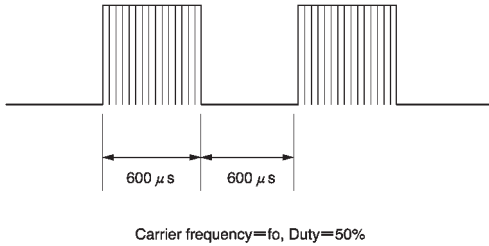
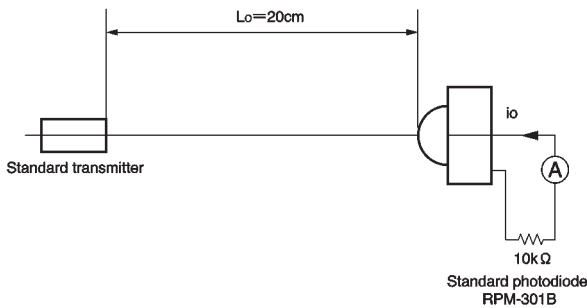
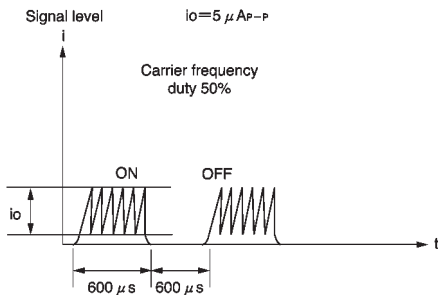

Fig.1 Transmit signal
Fig.2 Measurement of standard transmitter proofreading
Fig.3 Standard photodiode current
*1 The burst wave form mentioned in fig.1 is to be transmitted from standard transmitter (fig.2). Measure 10th or later pulse width after beginning of transmission.
When standard transmitter output the signal at Fig.1 standard photodiode output become $i_o = 5 \mu A_{p-p}$ under the measurement condition Fig2, Fig.3.
(1) All characteristics of the receiver in this specification are specified by supplying burst wave form with ROHM standard transmitter (Fig.2).